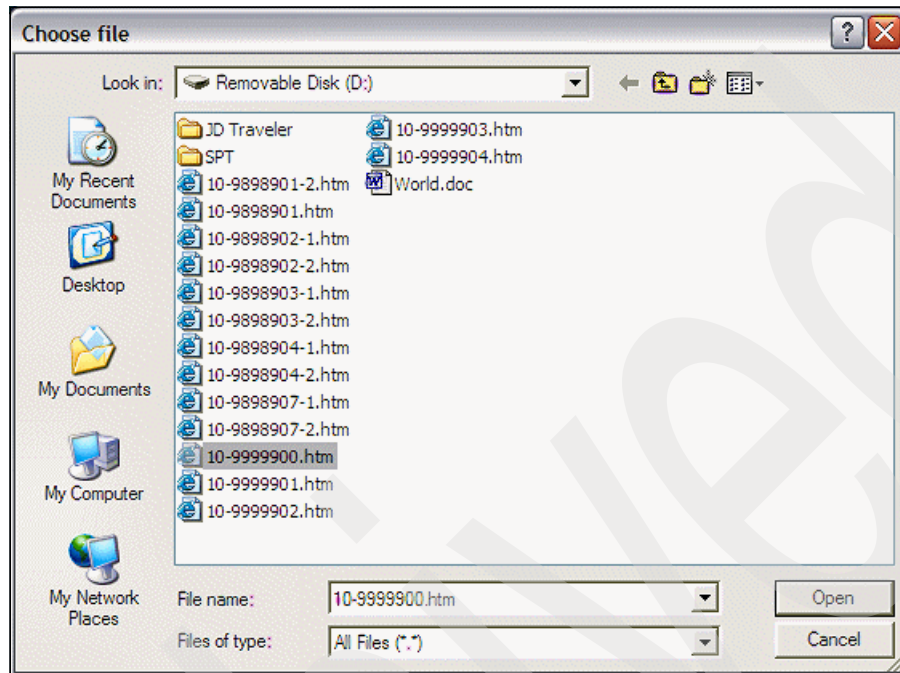

Figure 5-3 Browse for the desired performance data
2. Click **Browse** and a selection of files that are on your PC are presented to you. Figure 5-3 shows the collected files of performance data we use in our examples. You can choose a system to consolidate the partition data. The partitions data should have the extension of a two-digit number appended to the end (00–99).